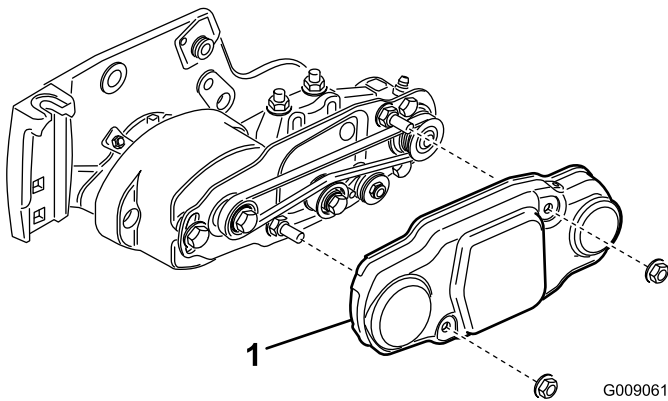

Figure 15
3. Remove the (2) roller brush cover mounting nuts and remove the cover (Figure 15).